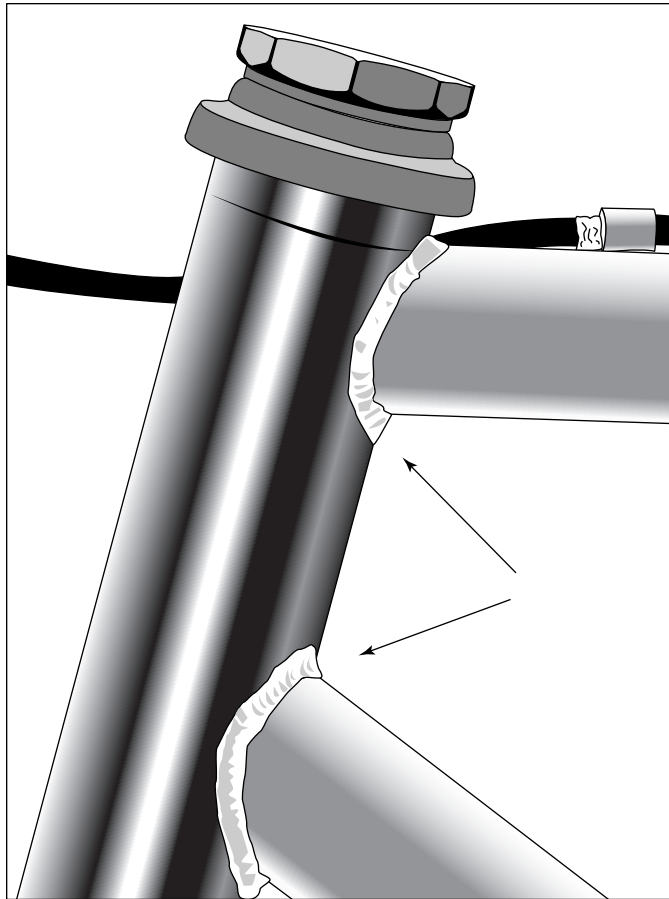

Figure 12-6:
4. Visually inspect the frame for defects (as shown in Figure 12-6).